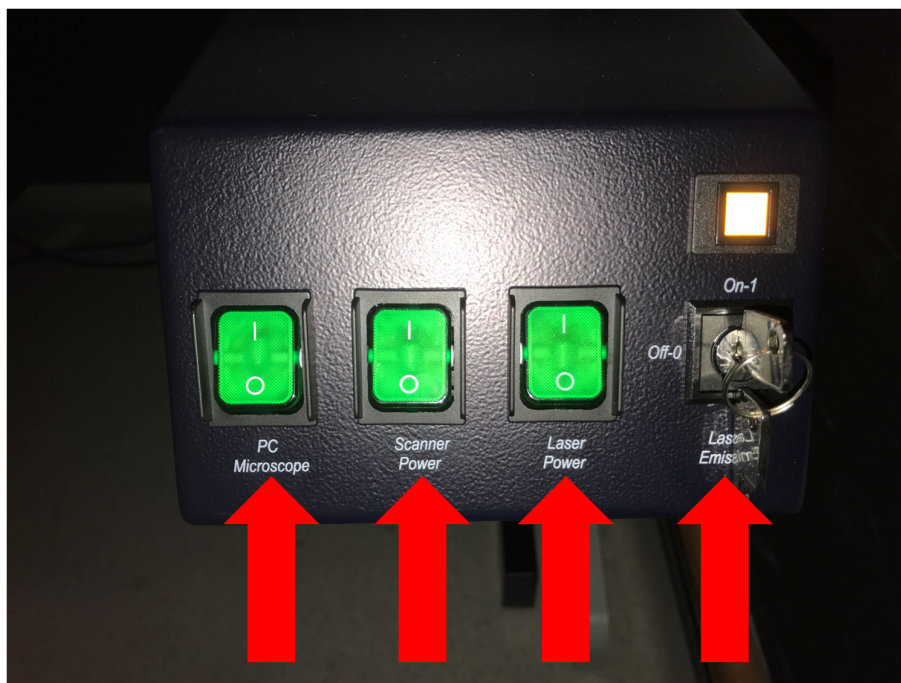

Figure 1: Turn on Left to Right then Key
1. Turn on the three green switches on the right side of table, turn emission key to on position. See Figure: 1.